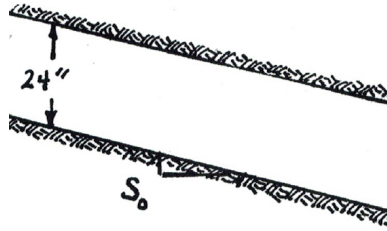

Figure 8: Sewer pipe sketch
19. (10 points) A 24-inch diameter sewer pipe, with Manning's n of 0.015 is laid on slope $S_0 = 0.01$ as shown in Figure 8.